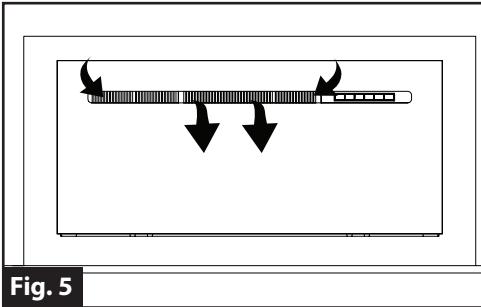

Fig. 5
- Do not block the ventilation areas. (Fig. 5)